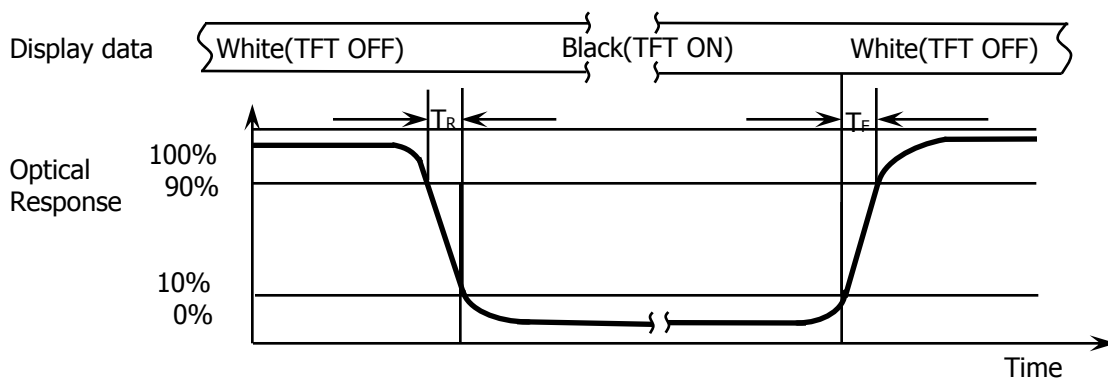

**Figure 3. Uniformity Measurement Locations (13 points)**
4. The White luminance uniformity on LCD surface is then expressed as :  $\Delta Y = \text{Minimum Luminance of 5(or 13) points} / \text{Maximum Luminance of 5(or 13) points}$  (see FIGURE 2 and FIGURE 3).
The White luminance uniformity on LCD surface is then expressed as :  $\Delta Y5 = \text{Minimum Luminance of five points} / \text{Maximum Luminance of five points}$  (see FIGURE 2) ,  $\Delta Y13 = \text{Minimum Luminance of 13 points} / \text{Maximum Luminance of 13 points}$  (see FIGURE 3).